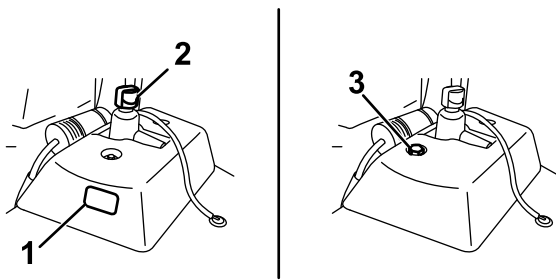

Figure 55
- If the auxiliary hydraulic tank has a sight window, check the oil level there (Figure 55), and proceed to step 5.
- If the auxiliary hydraulic tank does not have a sight window, locate the dipstick on the top of the machine (Figure 55) and proceed to step 3.